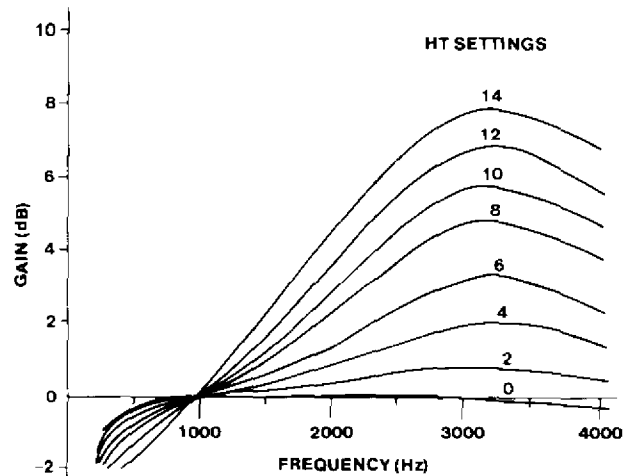
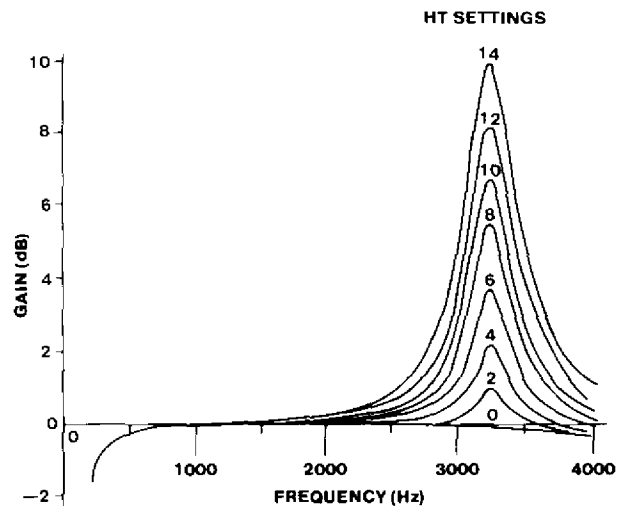

figure 5. Typical response curves for receive-channel equalizer in bump mode, BW switch = 14
figure 6. Typical response curves for receive-channel equalizer in bump mode, BW switch = 3
2.08 Figures 5 and 6 show typical response curves for the 263DA-3/DB-3's equalizer in the bump mode. Figure 5 shows the curves representing various height settings versus a wide bandwidth setting, while figure 6 shows the curves representing various height settings versus a narrow bandwidth setting. For comparison purposes, all frequency response curves in figures 5 and 6 are drawn with the same 0dB-gain reference point (1004Hz). Actually, all of these curves except those with an HT switch setting of 1 or 0 and/or with a BW switch setting of 5 or less are raised above the 0dB level by as much as 3.9dB. The exact amount by which a particular curve is raised